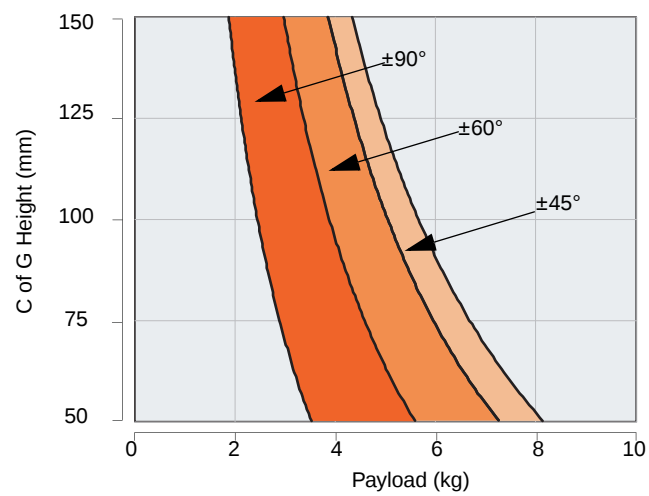
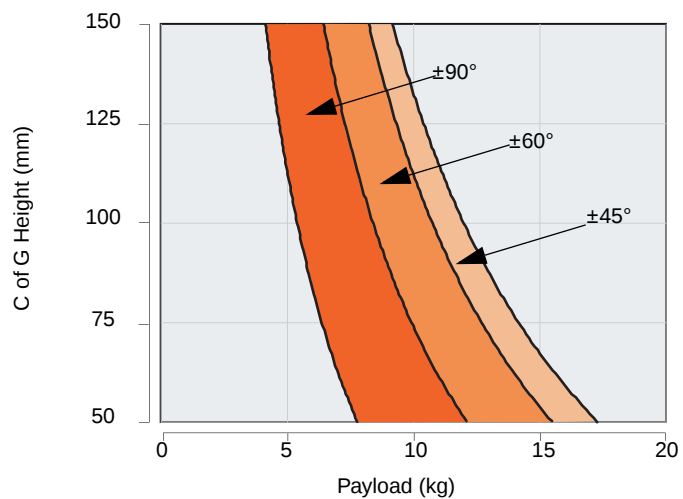
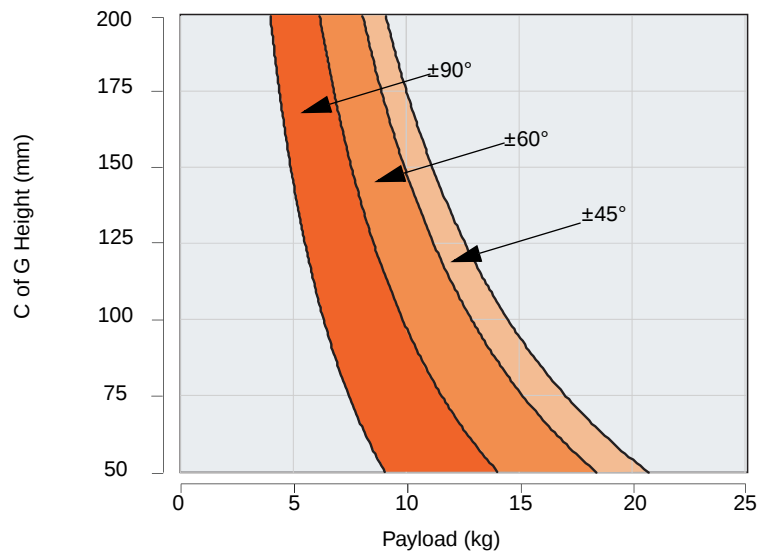
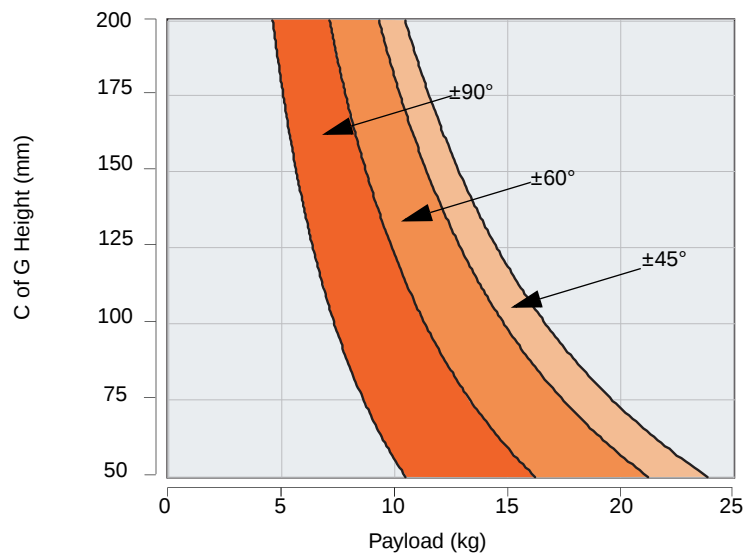

Fig. 8 Vision 3AS balance graph
Fig. 9 Vision 5AS balance graph
Fig. 10 Vision 8AS balance graph
Fig. 11 Vision 10AS balance graph
The AS head provides infinitely adjustable balance, allowing operators to adjust the amount of counter balance required using the Perfect Balance control (3) located on the right-hand-side of the head. Maximum and minimum payloads that can be balanced are dependent on the weight of the camera and accessories fitted, and on the centre of gravity (C of G) height. The balance graphs (Fig. 8, Fig. 9, Fig. 10 and Fig. 11) illustrate the range of load and C of G height that can be maintained in balance.
Balance graphs (Fig. 8, Fig. 9, Fig. 10 and Fig. 11) illustrate the relationship between load and Centre of Gravity (C of G) height for each Vision AS pan and tilt head. The balance graphs can be used to ascertain the suitability of the head for any given combination of camera, lens and accessories. The shaded area of graph corresponds to those load/C of G combinations that can be balanced over the full tilt range. The areas to the right indicate the progressively reducing tilt range with greater load and higher C of G. Where a load/C of G combination falls outside of the graph it will be necessary to increase or decrease the weight or the C of G height to enable the head to balance the load.
NOTE: Maximum tilt angle is less than 90° for heavy payloads with a high C of G - refer to the balance graphs (Fig. 8 to Fig. 11).